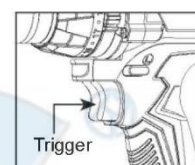

Fig. 8
1. To start the tool, simply press the trigger. Tool speed is increased by increasing pressure on the trigger. Release the trigger to stop. (Fig. 8)